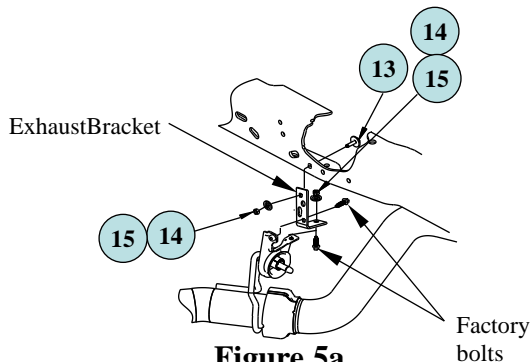

Figure 5a
16. If there is less than 1/2" clearance between the exhaust pipe and the Hide-A-Goose cross members, the exhaust bracket supplied with the 4449 mounting kit must be used. See Figure 5a and 5b for 2008 models and up. For the rear attachment (Figure 5a), fasten the supplied bracket extension to the factory bracket with the factory M8 bolts, then fasten the extension to the frame with the supplied hardware. Reattach the exhaust bracket forward of the axle to the frame cross member with 3/8" spacers sandwiched between the bracket and cross member.